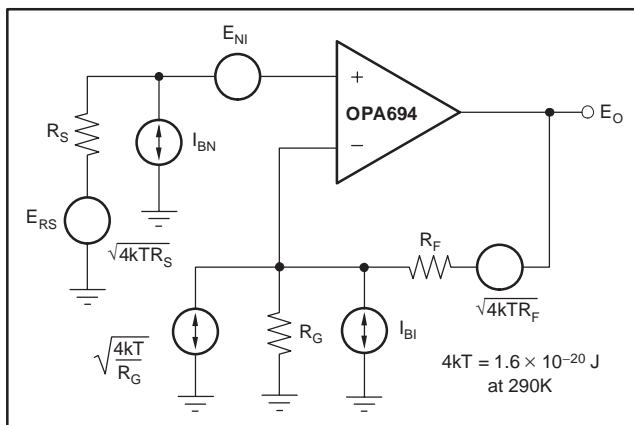

Figure 10. Op Amp Noise Analysis Model
Wideband, current-feedback op amps generally have a higher output noise than comparable voltage-feedback op amps. The OPA694 offers an excellent balance between voltage and current noise terms to achieve low output noise. The inverting current noise ($24\text{pA}/\sqrt{\text{Hz}}$) is significantly lower than earlier solutions, while the input voltage noise ($2.1\text{nV}/\sqrt{\text{Hz}}$) is lower than most unity-gain stable, wideband, voltage-feedback op amps. This low input voltage noise was achieved at the price of higher noninverting input current noise ($22\text{pA}/\sqrt{\text{Hz}}$). As long as the AC source impedance looking out of the noninverting node is less than 100Ω , this current noise will not contribute significantly to the total output noise. The op amp input voltage noise and the two input current noise terms combine to give low output noise under a wide variety of operating conditions. Figure 10 shows the op amp noise analysis model with all the noise terms included. In this model, all noise terms are taken to be noise voltage or current density terms in either $\text{nV}/\sqrt{\text{Hz}}$ or $\text{pA}/\sqrt{\text{Hz}}$.
The total output spot noise voltage can be computed as the square root of the sum of all squared output noise voltage contributors. Equation (4) shows the general form for the output noise voltage using the terms shown in Figure 10.